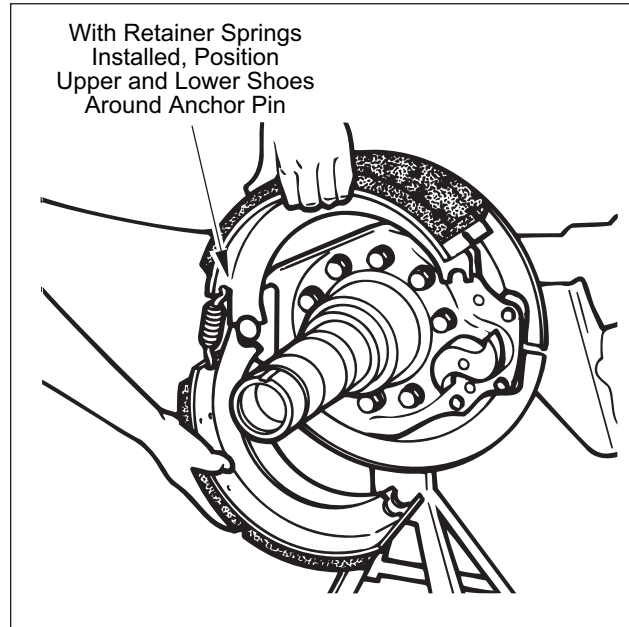

Figure 60. Upper and Lower Shoe Positioning
5. Position upper and lower shoes around anchor pin. Refer to Figure 60.